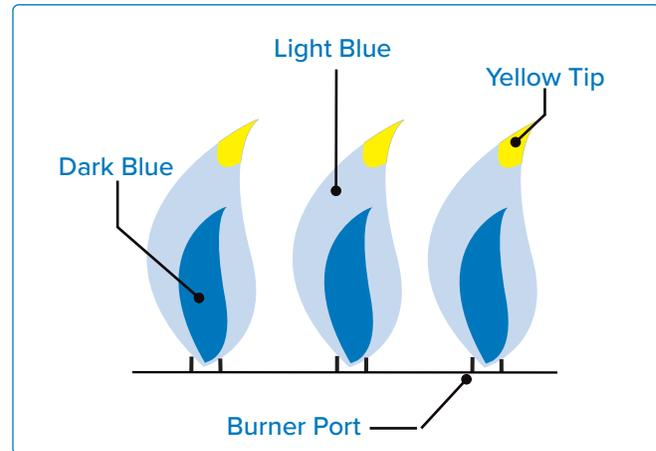

Fig. 16
- Flames should appear dark blue with light blue tips and occasional yellow (Fig. 16)